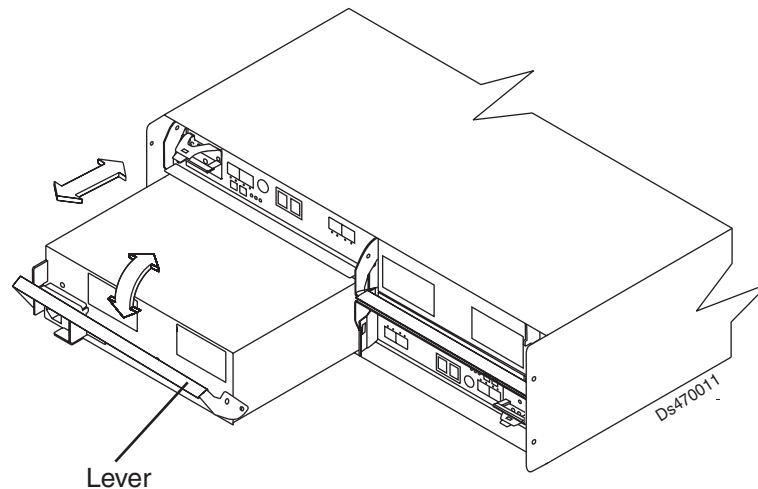

Figure 78. Replacing a power supply and fan unit
Use the following procedure to replace a power supply and fan unit. Figure 78 on page 127 illustrates removing and inserting a unit.
11. Slowly pull the lever away from the chassis to remove the power supply and fan unit, as shown in Figure 78 on page 127.